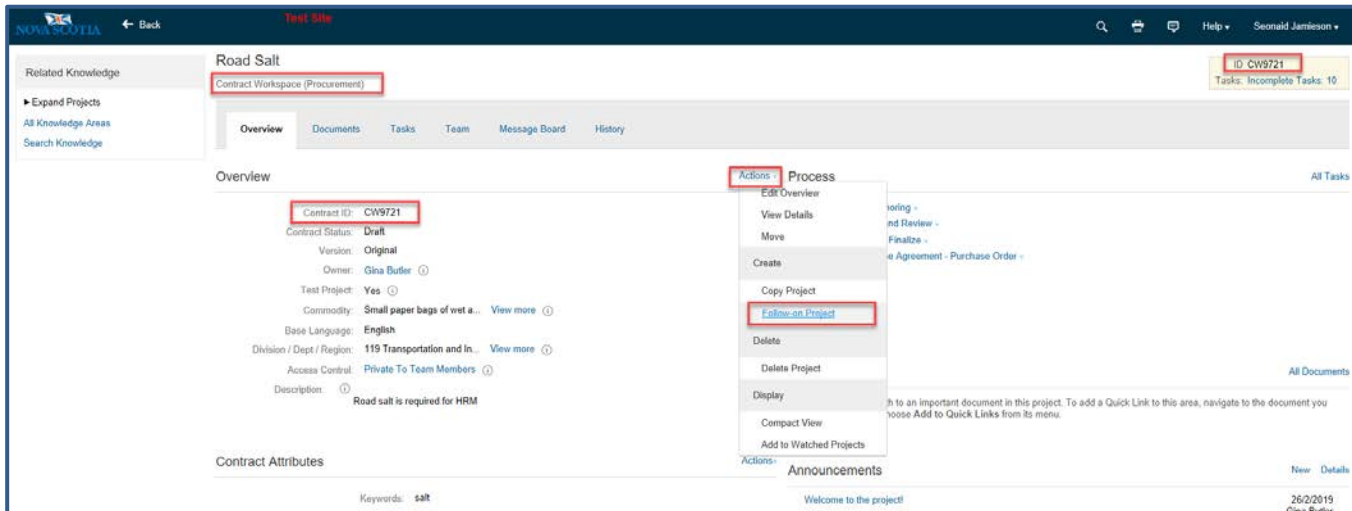

Figure 8
6. Click the down arrow key beside **Actions** and select **Follow-on Project** (Figure 8).